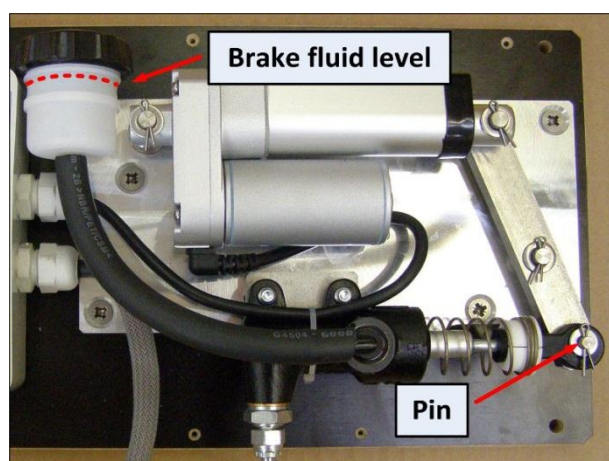
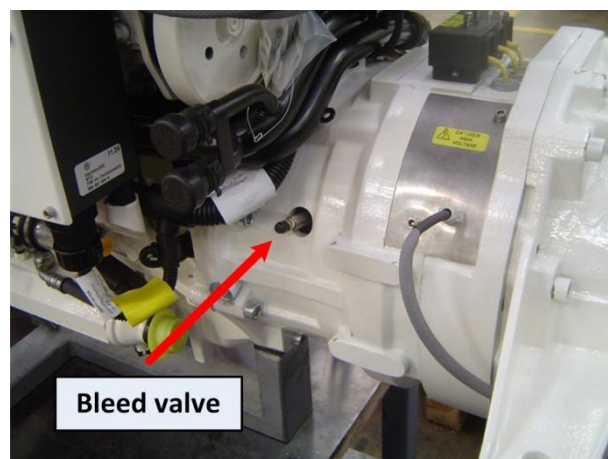
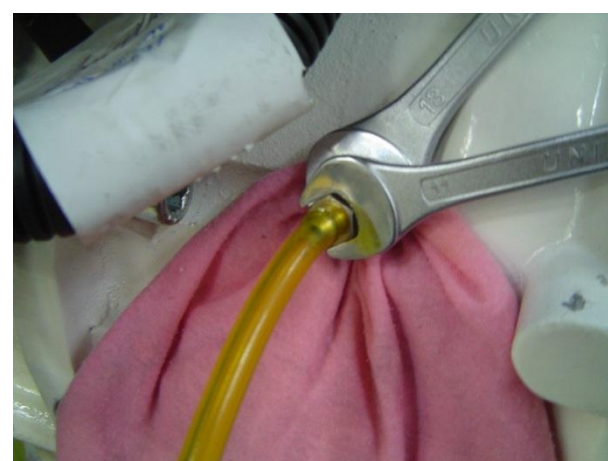
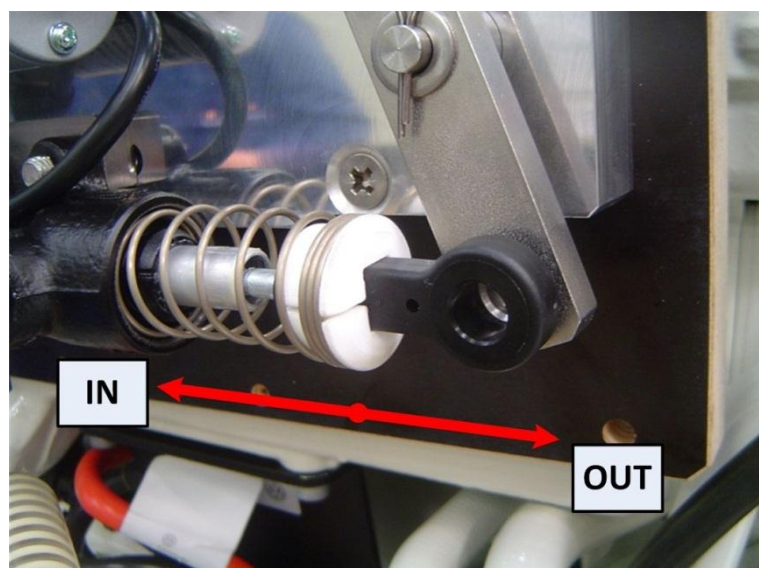

Figure 30
Figure 29
Figure 31
Figure 32
Check brake fluid level in the container – must be between **min** and **max** indicator (Figure 30). On the actuator remove the pin connecting lever and the master cylinder piston rod (Figure 30). Pull the piston rod OUT (Figure 32). Put transparent hose on bleed valve (see location on Figure 29) and insert the other end of the hose in an empty bottle. Protect housing with a piece of cloth (Figure 31). Add or fill the brake fluid.
- **Loosen** the bleed valve on the hydraulic connector with fork wrench 11mm (Figure 31) and **push** the piston rod **IN** (Figure 32).
- **Tighten** the bleed valve and **pull** the piston rod **OUT** (Figure 32).
When the system is bled, master cylinder piston rod becomes very stiff to push **IN** by hand. Tighten the bleed valve with torque 13^{+2} Nm while securing the connector with wrench 13mm against over tightening (Figure 31).